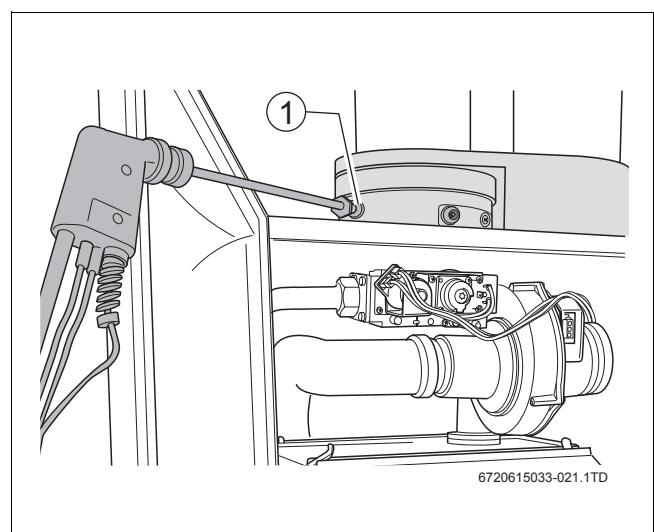

Fig. 17 Measuring the carbon monoxide content
3.5 Measuring the carbon monoxide content (CO)
- Measure the carbon monoxide content on the flue gas sampling point (→ fig. 17, [1]).